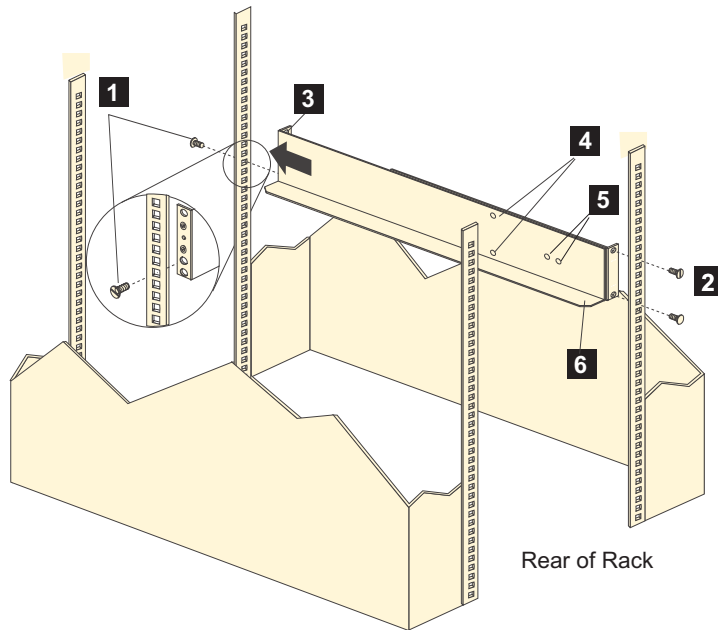

Figure 13. Installing the support rails
Note: Refer to Figure 13 on page 26 while performing these steps.
Note: The support rails are not marked as Left or Right. However, each rail can be correctly mounted on only one side of the rack cabinet. The rails should be mounted with the alignment pins at the back of the rack. Figure 13 on page 26 shows the installation of the left support rail.
2. Remove the four screws from the rails (two screws in each rail). See **4** in Figure 13 on page 26. If you do not remove these screws, the storage expansion enclosure will not fit securely.